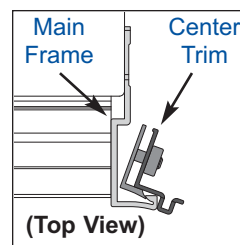
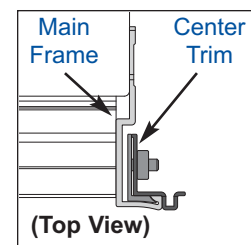

Figure 3.
Figure 4.
2. With trim brackets loosely attached, hold center trim piece at about a 75° angle against right side main frame (See Figure 3). Then, rotate it toward the unit so the trim brackets hook in behind the main frame (See Figure 4), now align bottom of center trim piece with bottom of main frame and tighten nuts.